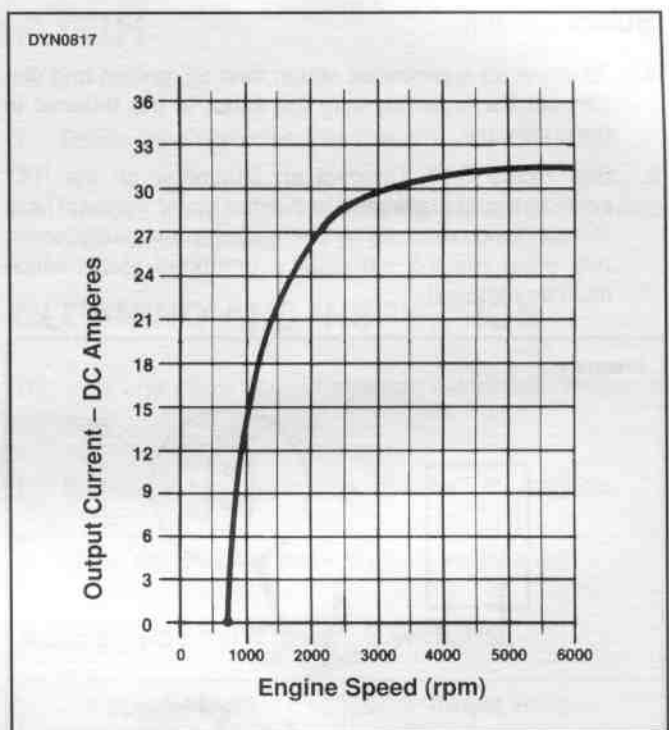

Figure 8-17. Current Output Curve
1. Connect load tester negative and positive leads to battery terminals and place load tester induction pickup over positive regulator cable as shown in Figure 8-17.
See Figure 8-17. The current output should be 26-32 amperes. Make note of measurement.